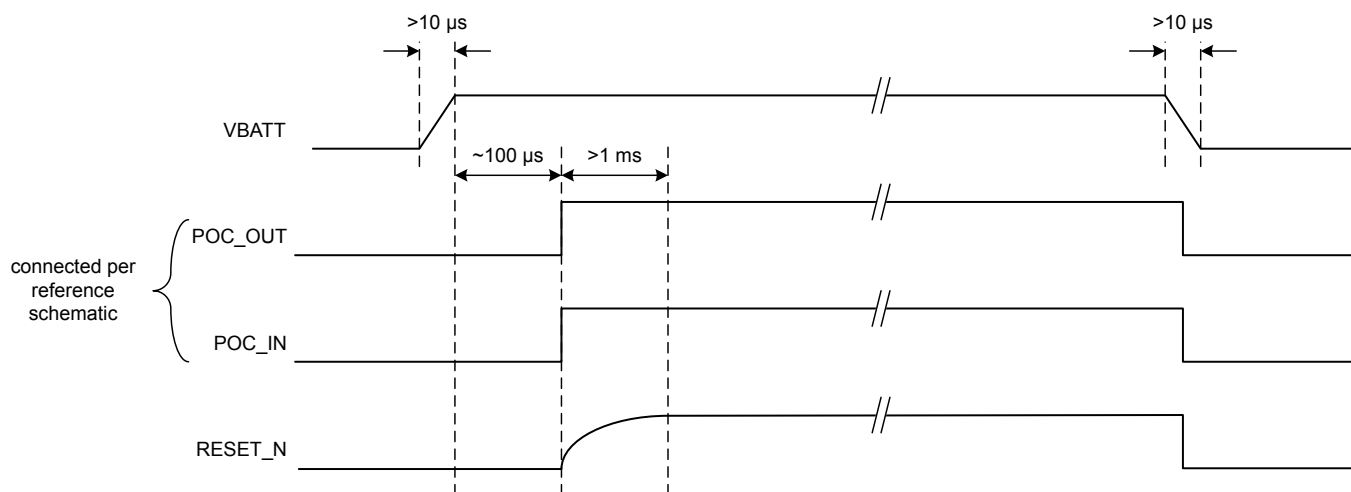

Figure 7.1. Power Up Sequence
- RESET_N: RESET_N is an open-drain signal which will be pulled low during a chip reset. It is released after POC_IN is high. RESET_N should be connected to an RC circuit to fulfill the timing requirements shown in Figure 7.1. Power Up Sequence.
Figure 7.1. Power Up Sequence shows the signal timing when POC_OUT, POC_IN, and RESET_N are connected per the recommended schematic. The POC_IN-to-RESET_N delay will occur when POC_IN transitions from low to high. VBATT in the figure refers to the connection of UULP_VBATT_1 and UULP_VBATT_2 (connected together in the schematic).